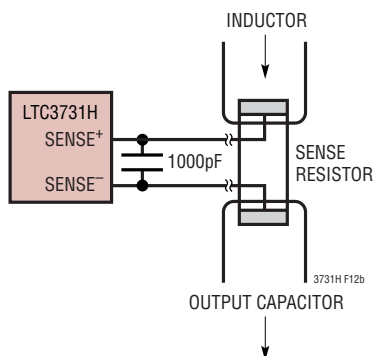

Figure 12. Kelvin Sensing RSENSE
3) Are the SENSE– and SENSE+ printed circuit traces for each channel routed together with minimum PC trace spacing? The filter capacitors between SENSE+ and SENSE– for each channel should be as close as possible to the pins of the IC. Connect the SENSE– and SENSE+ pins to the pads of the sense resistor as illustrated in Figure 12.